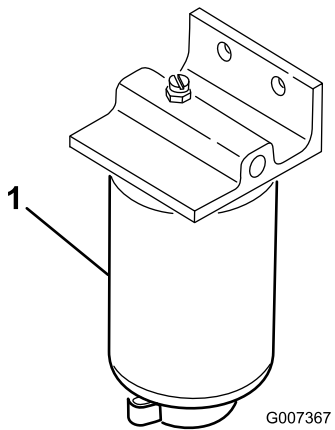

Figure 49
Drain the water or other contaminants from the water separator (Figure 49) daily.
2. Loosen the drain plug on the bottom of the filter canister (Figure 49).